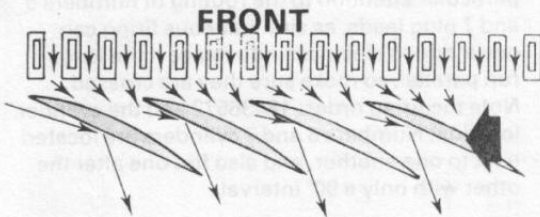

FIG. 84
29. Check that the fan blades are fitted the correct way round as shown in **Fig. 84**.